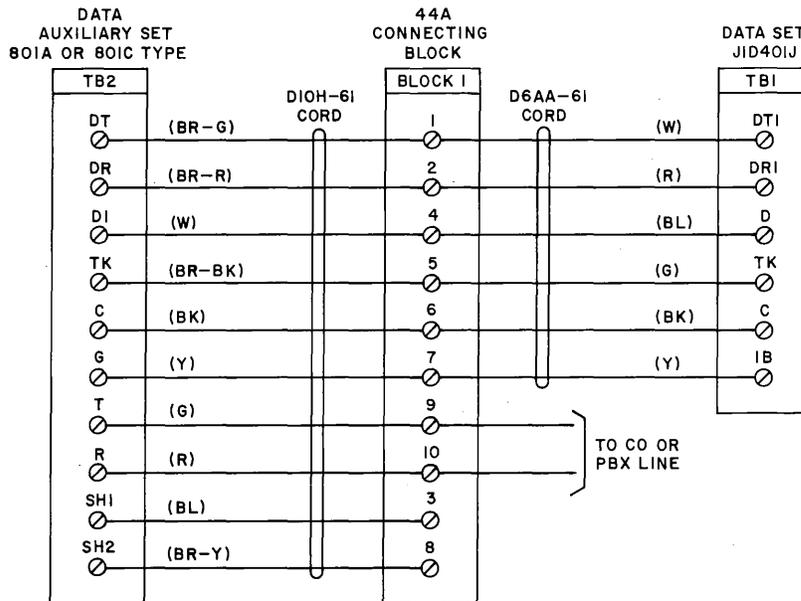

Fig. 11—Data Set 401J1 or J1D401J (D6AA-61 Cord), Connections to Data Auxiliary Set 801-Type
- (a) The connection arrangement for Data Sets J1D401J and 401J1 is shown in Fig. 11.